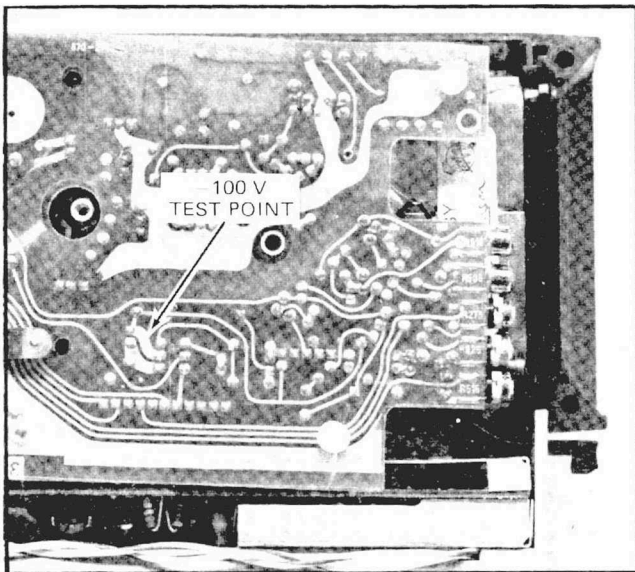

Fig. 4-2. Location of -100 V test point.
2. Measure the  $-100\text{V}$  supply for a reading of  $-95$  volts to  $-110$  volts (see Fig. 4-2).